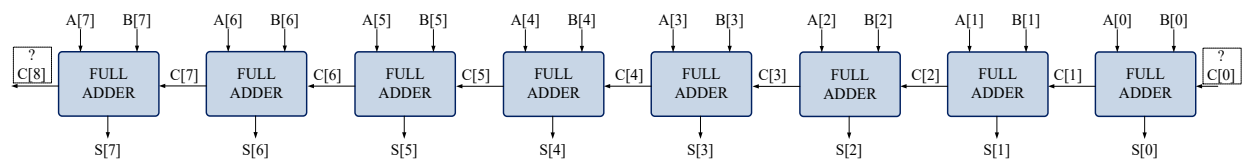

Figure 11 – The 8-bit Full Adder
- ✓ Draw the schematic of the 8-bit ALU as shown in Figure 11. Use the **ALU_1bit** that is already designed. When you are finished drawing the schematic and creating the pins, create the symbol for the cell.
The 8-bit adder is then simply designed by connecting eight 1-bit full adders as shown in Figure 11 (Ripple carry adder). As it can be seen, the carry out of one digit is connected to the carry in of the next digit.